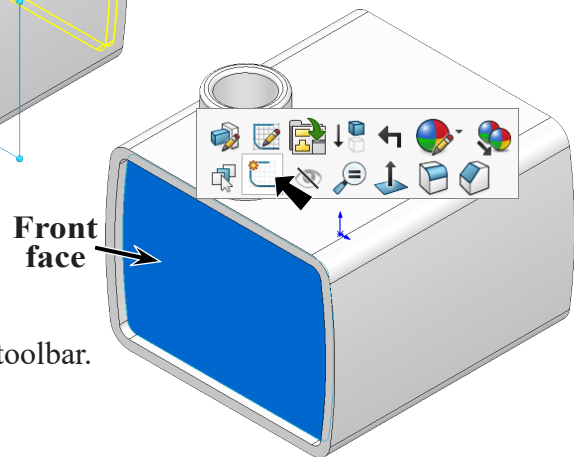

Fig. 30
Step 1. Click the **front face** and click **Sketch**  on the context toolbar, **Fig. 30**.